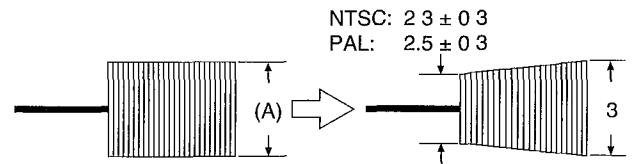
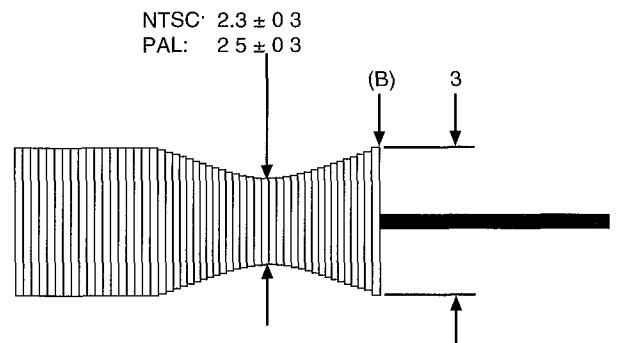

Fig. 4-1
Fig. 4-2
<p>Adjustment procedure</p> <p>Caution: Before performing this adjustment, refer to Fig. 6-1 and modify the ATF-R jig.</p> <ol style="list-style-type: none"> <li>Load the alignment tape which has been completely rewound, and holding down the playback button, supply a DC power source (7.2 V). Set the power switch of the camcorder to OFF at this time.</li> <li>Connect an oscilloscope to TP3 on the ATF-R jig.</li> <li>Syncronise the oscilloscope with TP1(SW25/30) on the ATF-R jig.</li> <li>Set the oscilloscope to (+) slope.</li> <li>Press SW2 on the ATF-R jig and hold it, then perform the following steps.</li> <li>Adjust the voltage level control of the oscilloscope so that portion (A) of the waveform is set to 4 graduations.</li> <li>Set SW1 on the ATF-R jig to ON.</li> <li>Turn RT1 on the ATF-R jig counterclockwise so that portion (A) of the waveform is set to 3 graduations.</li> <li>Adjust the height of the supply guide roller so the minimum amplitude of the waveform is set to NTSC: <math>2.3 \pm 0.3</math> / PAL: <math>2.5 \pm 0.3</math> graduations. (See Fig. 4-1)</li> <li>If this cannot be confirmed, adjust the height of the supply guide roller, referring to "3-3. Supply/Take-up Guide Roller Height Adjustment".</li> <li>Set the oscilloscope to (-) slope.</li> <li>Turn RT1 on the ATF-R jig counterclockwise so the voltage at point (C) on the ATF-R jig is <math>1.8 \pm 0.1V</math>. Then check that point (B) of the waveform is set to 3 graduation.</li> <li>Check that the minimum amplitude of the waveform is set to NTSC: <math>2.3 \pm 0.3</math> / PAL: <math>2.5 \pm 0.3</math> graduations. (See Fig. 4-2)</li> </ol> <p>If this cannot be confirmed, adjust the height of the take-up guide roller, referring to "3-3. Supply/Take-up Guide Roller Height Adjustment".</p> <ol style="list-style-type: none"> <li>Perform the following electrical adjustments. <ul style="list-style-type: none"> <li>Head switching point adjustment</li> <li>Record luminance/chroma level adjustment</li> </ul> </li> </ol> <p>Caution: After adjustment is complete, be sure to reverse the modification to ATF-R jig.</p>